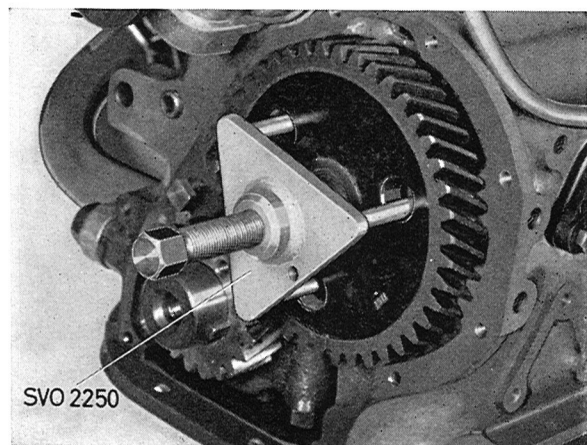

Fig. 2-51. Removing camshaft gear
4. Remove the camshaft nut and pull off the gear by using puller 2250, see Fig. 2-51.